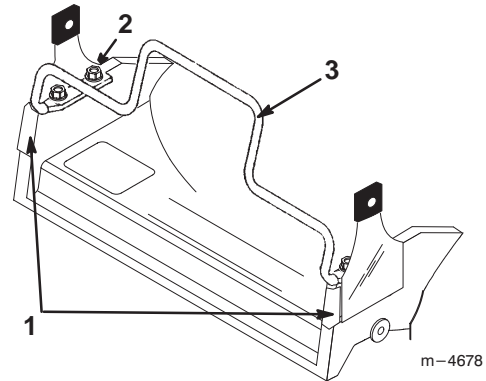

Figure 9
1. Remove the four hex head screws from the front quadrants (Fig. 9). Leave the quadrants in place.
2. Install the new engine guard on the front of the lawn mower deck with two hex head screws as shown in Figure 9.